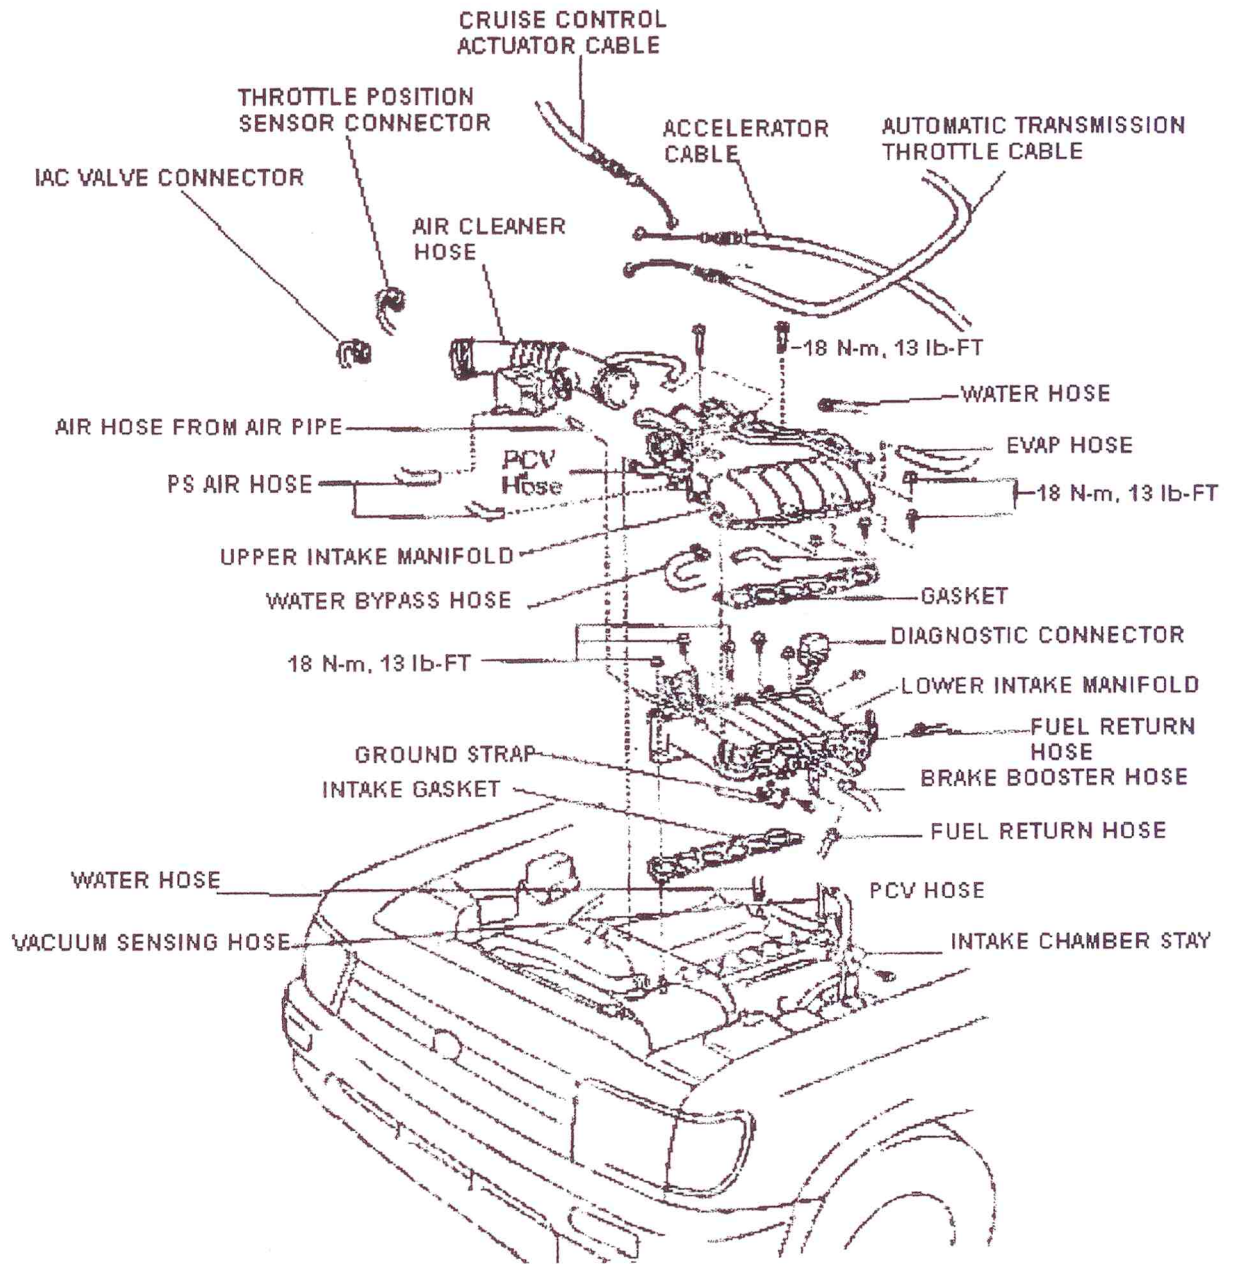

FIGURE 2
Label the vacuum lines and attachment points as you disconnect the lines to facilitate reattachment. Consult your factory repair manual for exact routing and locations. **Figure 2** shows an exploded view of the engine components that will be removed.
11. Remove the bolt holding the manifold to the intake chamber stay, as shown in Figure 2 and 21. Save the bolt for re-assembly.
36. Attach the manifold brace on the drivers side of the engine to the supercharger brace, reusing the original fastener. See **Figure 2** and **21**.